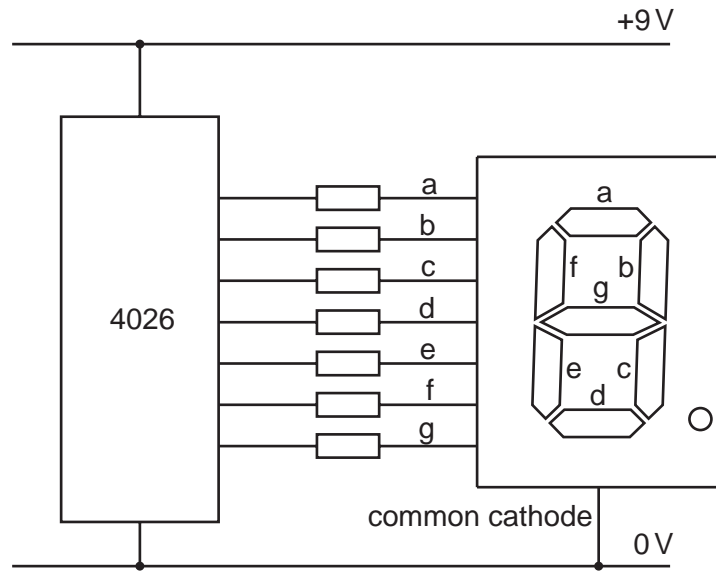

Fig. 12.6
- (g) Fig. 12.6 shows the outputs of a 4026 CMOS counter IC connected to a 7 segment display. Each output is connected through a resistor to a segment of the display.